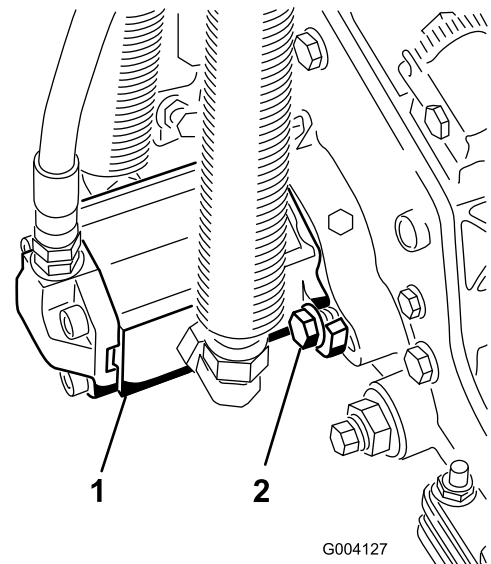

Figure 11
15. Install the motor by rotating it clockwise so that the motor flanges clear the capscrews (Figure 11). Rotate the motor counterclockwise until the flanges encircle the capscrews then tighten the capscrews.